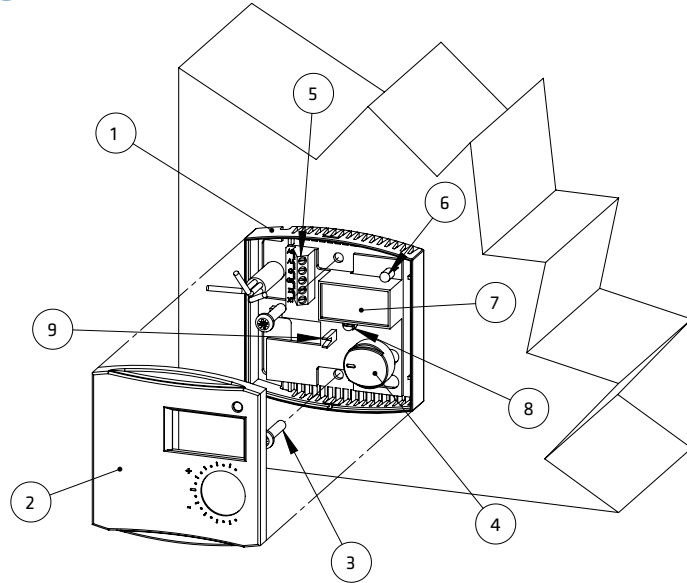

Figure 4
3. Remove the two fixing screws (3) of the perforated cover (2) and pull the cover away from the rear part (1).
4. Push the collar of the rear part inside the supply air duct and fix the rear part to the wall, using four screws (4), Ø max 5 mm).
5. Connect the supply cable of the supply air unit (MMJ) and the control cable of the regulator (KLMA) to the terminals of the electronic part of the supply air unit as shown on Figure 4.